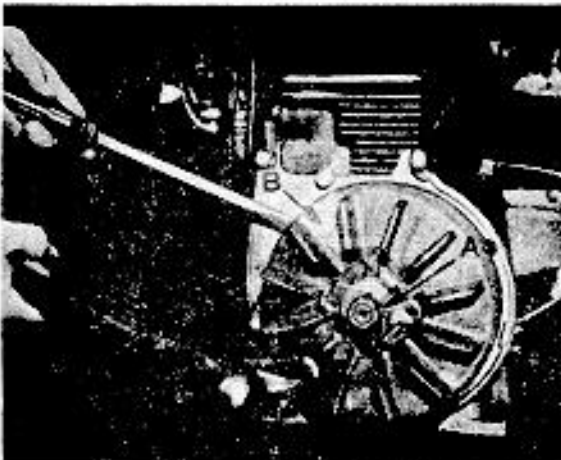

Figure 14
8. The flywheel is mounted on a tapered shaft and can be removed without the use of a special puller. If flywheel does stick on shaft, screw flywheel nut flush with end of shaft and rap sharply with a hammer. Figure 14.